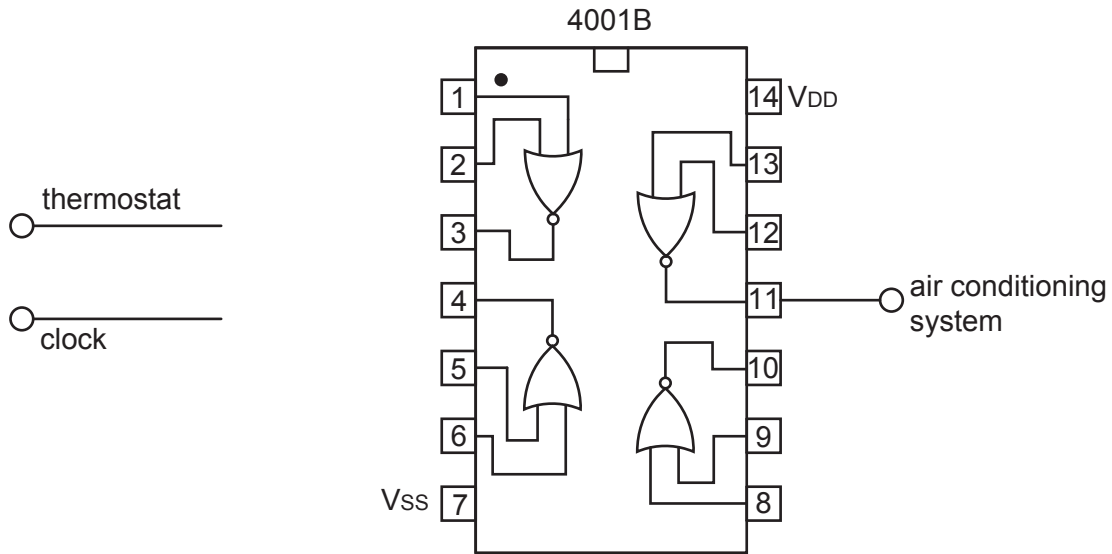

Fig. 11.5
- (ii) The only logic IC available is a 4001B quad NOR gate. This can be used for the required gate. Fig. 11.5 shows the IC with input and output connections.
Add the connections to Fig. 11.5. [3]